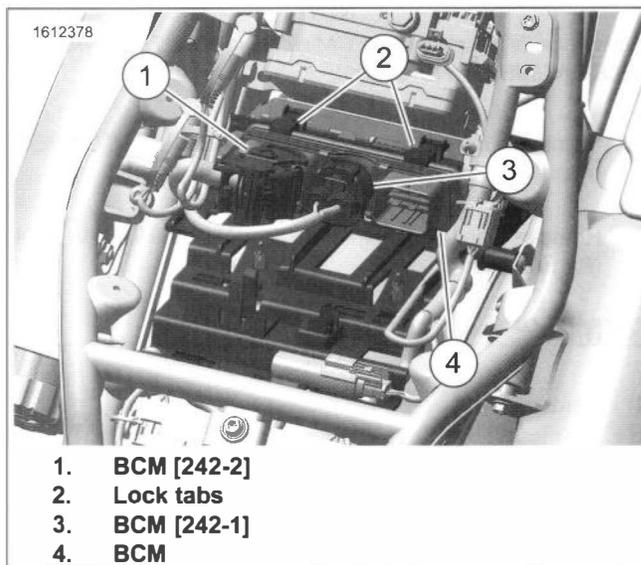

Figure 8-49. BCM and Connectors
1. See Figure 8-49. Disconnect Body Control Module (BCM).
- a. Disconnect BCM battery power [242-1] (3).
- b. Disconnect BCM [242-2] (1).
- a. Release BCM lock tabs (2).
- b. Slide BCM (4) up and out.
1. See Figure 8-49. Install BCM (4). Verify BCM locks in place.
- a. Install BCM [242-2] (1).
- b. Install BCM [242-1] (3).